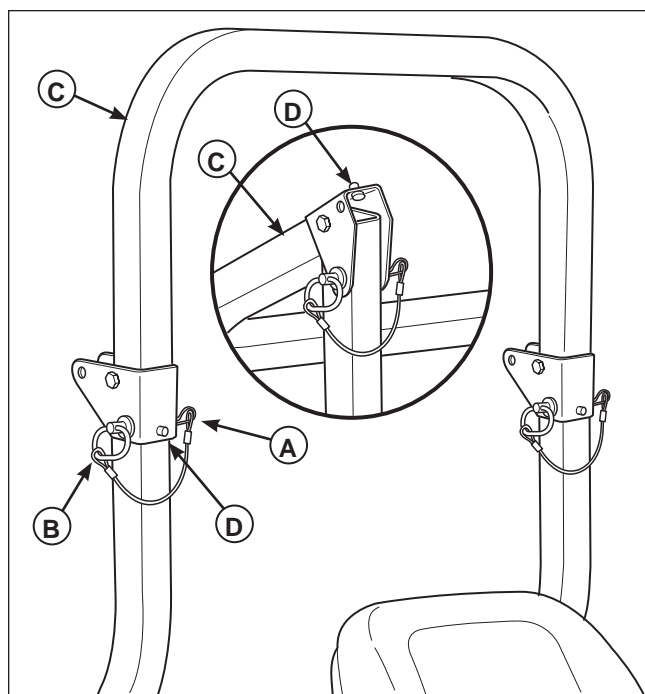

Figure 10. Raise & Lower the Roll Bar
1. Pull the hair pin clips (A, Figure 10) out of the retainer pins (B).
2. Push or pull the top of the roll bar (C) forward against the rubber stops (D) and remove the retainer pins (B).
3. Lower the roll bar and reinstall the retainer pins and hair pin clips to secure the roll bar in the down position (see insert, Figure 10).